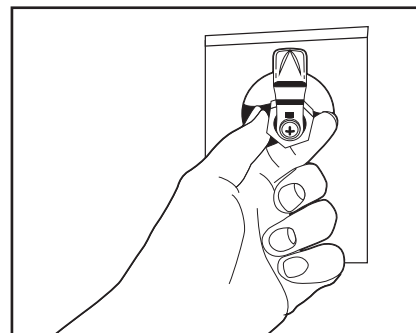

Figure 7
7. Be sure to position the lock in the upright position and attach the plastic nut on the back side of the lock cylinder. See Figure 7